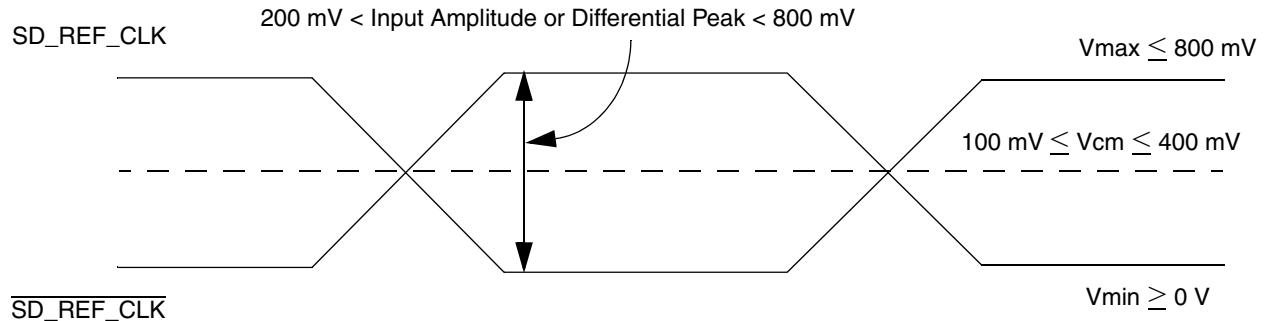

Figure 52. Differential Reference Clock Input DC Requirements (External DC-Coupled)
- For **external DC-coupled** connection, as described in Section 2.18.2.2, “SerDes Reference Clock Receiver Characteristics,” the maximum average current requirements sets the requirement for average voltage (common mode voltage) to be between 100 mV and 400 mV. Figure 52 shows the SerDes reference clock input requirement for DC-coupled connection scheme.